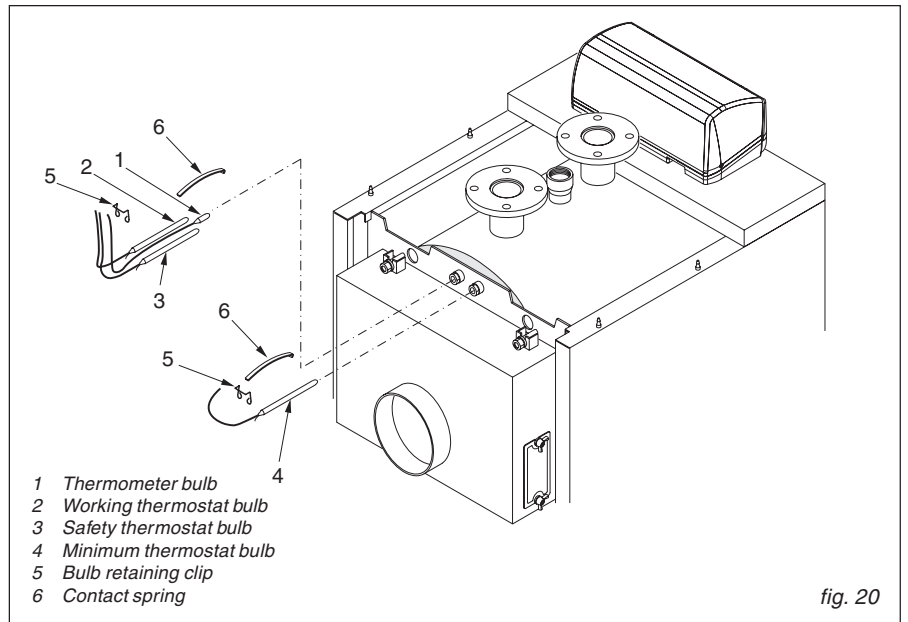

fig. 20
- F) Insert the thermometer and thermostat bulbs in the bulb holders as shown in fig. 20
- F) Insert the thermometer and thermostat bulbs in the bulb holders as shown in fig. 20 and connect the mains, the burner, the pump(s) and any ancillary equipment to the panel board.